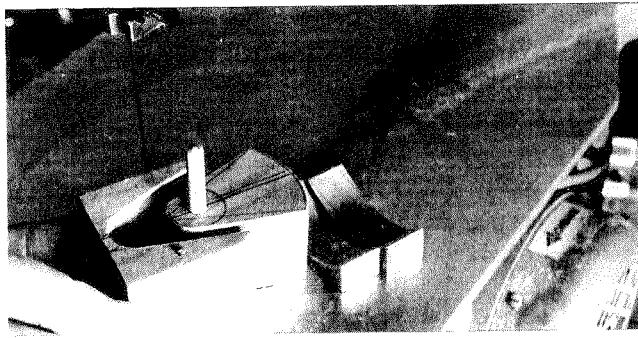

FIGURE 2-3
- Push a length of $\frac{1}{4}$ " dowel through the pivot hole to hold the two pieces of wood together, and cut the wedgelike shape out on the scroll saw (Fig 2-3).